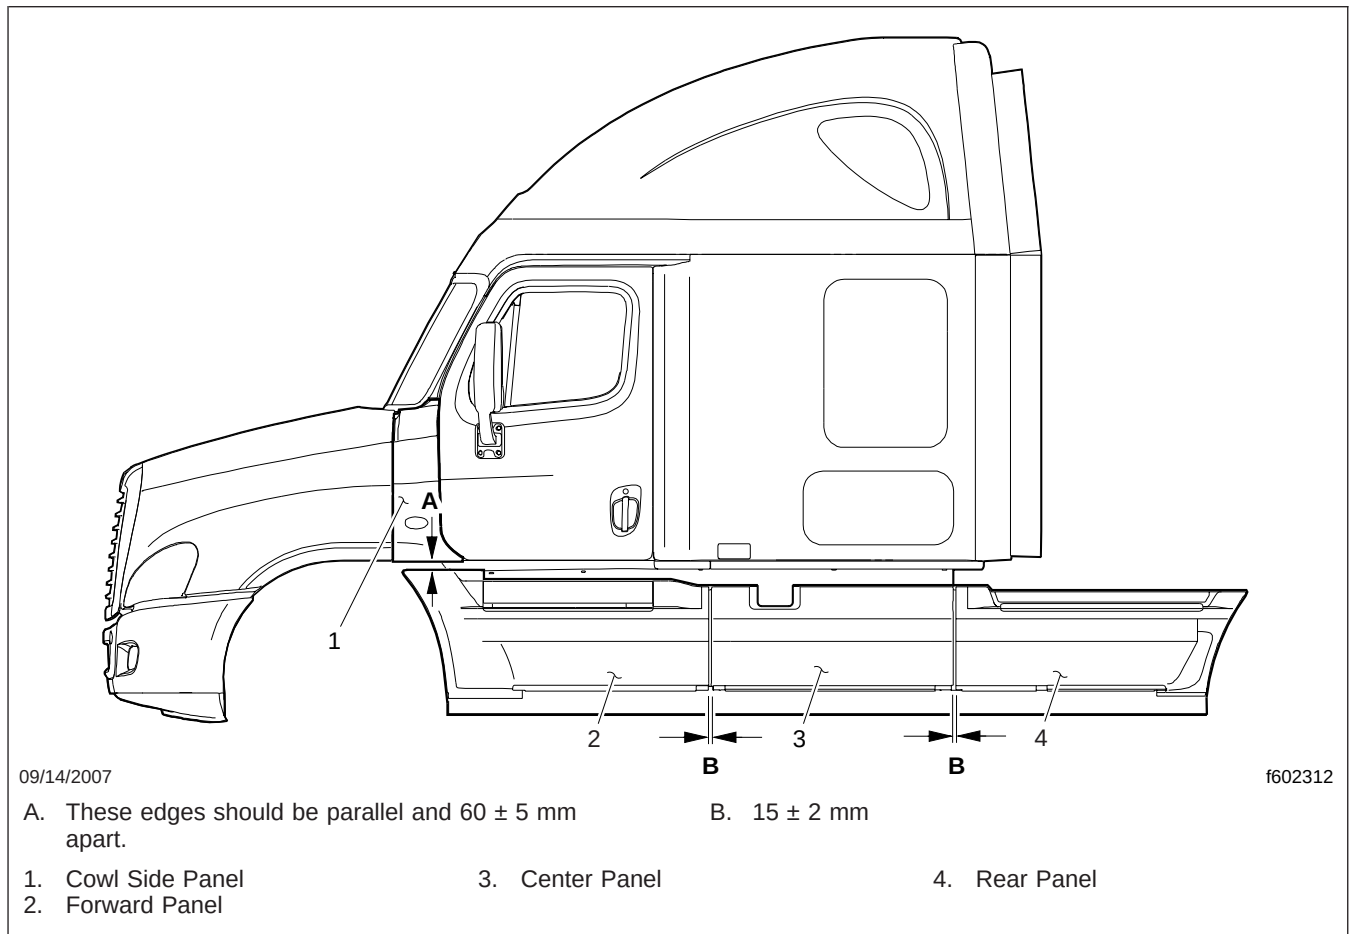

Fig. 2, Fairing Panel Alignment
side panel. The edges of the panels should be parallel and the gap should be 60 ± 5 mm. See Fig. 2.
5. Check the vertical gaps between the panels. They should be 15 ± 2 mm wide. See Fig. 2. Move the panels forward or backward as needed.